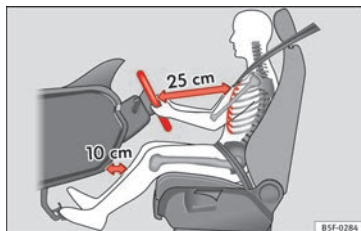

Fig. 94 The proper distance between driver and steering wheel.
- Adjust the steering wheel so that there is a distance of at least 25 cm between the steering wheel and the centre of your chest ►► **Fig. 94.**
- Adjust the driver's seat so that there is at least 25 cm distance between the centre of the chest and the centre of the steering wheel » Fig. 94. If distance is less than 25 cm, the airbag system may not protect you properly.